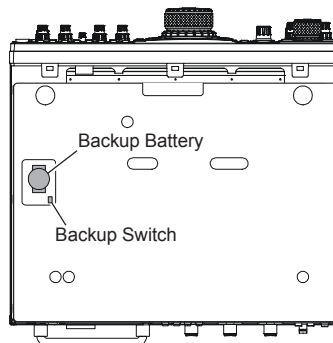

FIGURE 3
6. Locate the Lithium battery on the left side of the Control Unit (Figure 3).